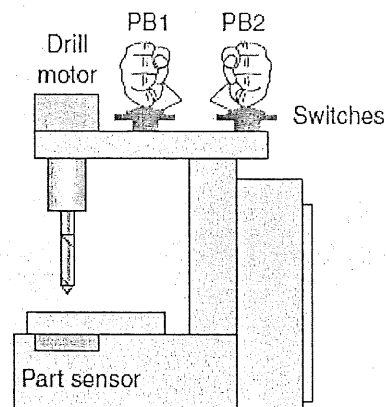

Figure 2
- d) Figure 2 shows a diagram of a drilling machine. The sequence of operation requires that a part must be present at the drilling area (detected by a sensor) and the operator has to turn on the drill motor by pressing PB1 and PB2 momentarily. The drill motor will operate for 30 seconds before it turns off. When the drill motor has turned off, the operator can take out the part that has been drilled and place a new part for the next drilling process.